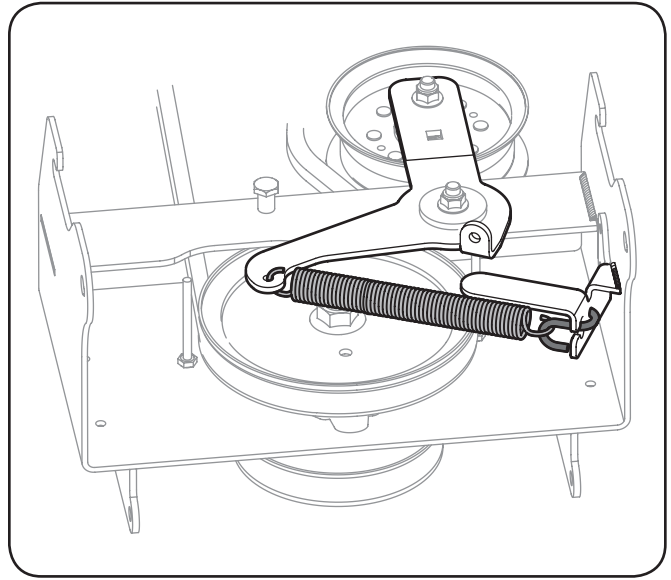

Figure 3-6
4. If your tractor is equipped with a **Electric PTO**, attach the 5½-inch extension spring to the wireform S-hook and then to the carriage idler bracket as show in Figure 3-6.